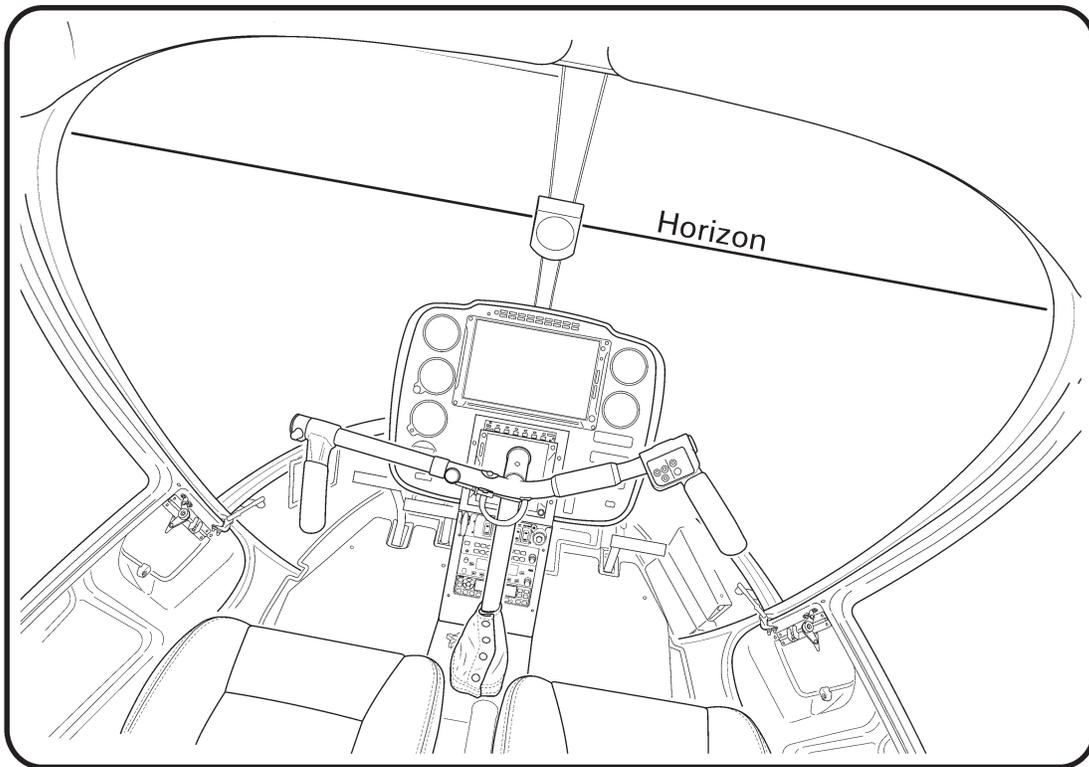

FIGURE 2 Camera view angle
- d. If horizon slants to the right (as shown in Figure 2), adjust angle by loosening two NAS1352-04-04 screws holding lens (see Figure 1) and rotate lens counterclockwise while facing lens; if horizon slants to the left, rotate lens clockwise. Tighten screws. Repeat steps b & c.